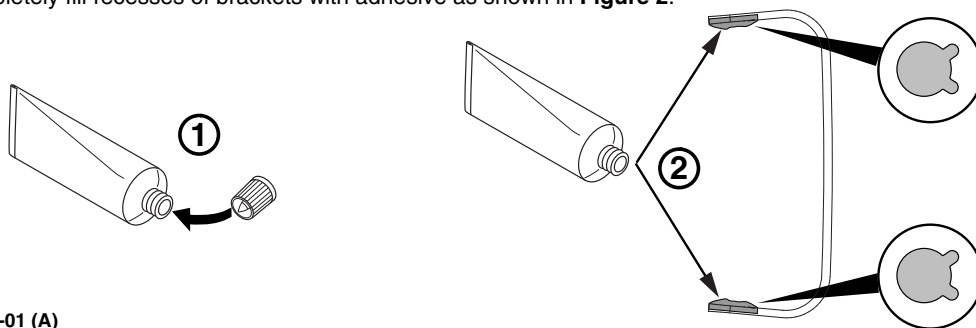

Figure 2
- ① Unscrew cap from adhesive tube and puncture seal with pin located inside of cap.
- ② Completely fill recesses of brackets with adhesive as shown in **Figure 2**.